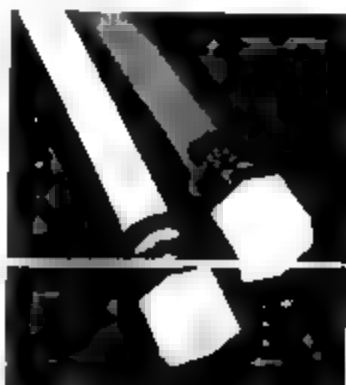

Fig. 27
4. Open the drains on the hot and cold water pipes located under floor of unit. The drains consist of male pipe thread fittings with screw on caps. See Fig. 27.